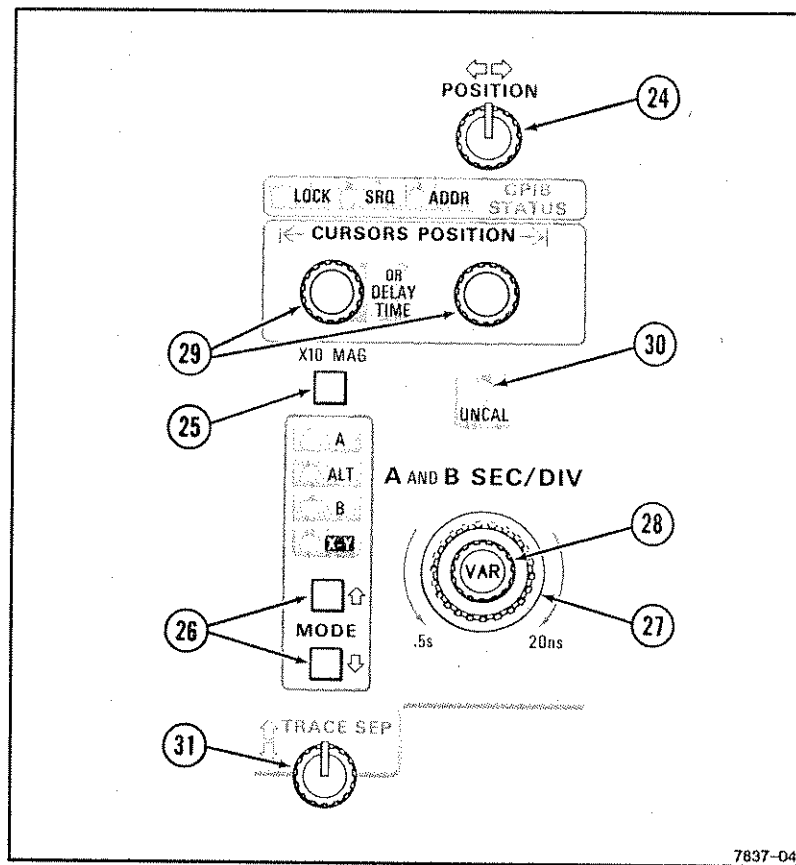

Figure 2-4. Horizontal controls and indicators.
Refer to Figure 2-4 for location of items 24 through 31.
- (24) **POSITION Control**—Adjusts the horizontal position of the waveform displays on the crt.
- (25) **X10 MAG Switch**—Magnifies the A and B sweeps by a factor of 10 and extends the fastest sweep speed to 2 ns per division. The center portion of an unmagnified sweep display will be within 0.5 division of the center of a magnified sweep display. No action occurs in X-Y mode.